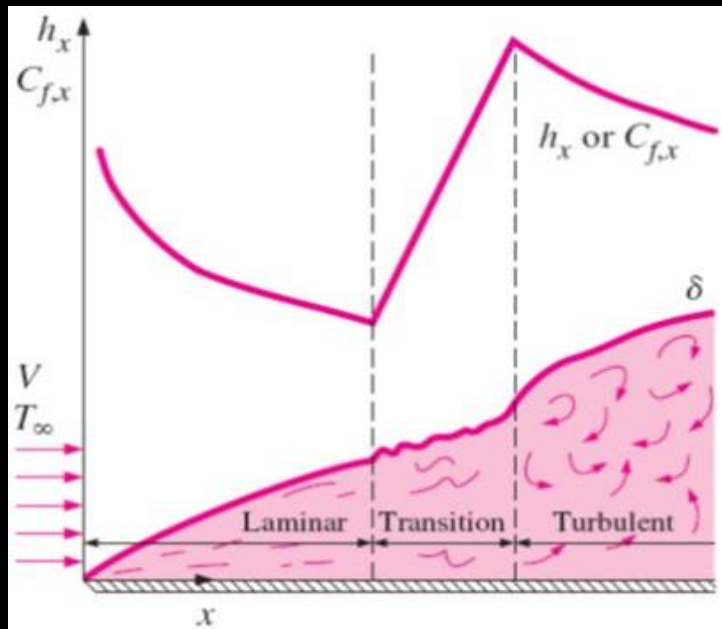

Fig 5: The variation of the local friction & heat transfer coefficients for flow over a flat plate
- In Fig 5, the local  $C_{f,x}$  &  $h_x$  reaches maximum when flow becomes fully turbulent and  $\downarrow_{ses}$  by a factor of  $x^{-0.2}$